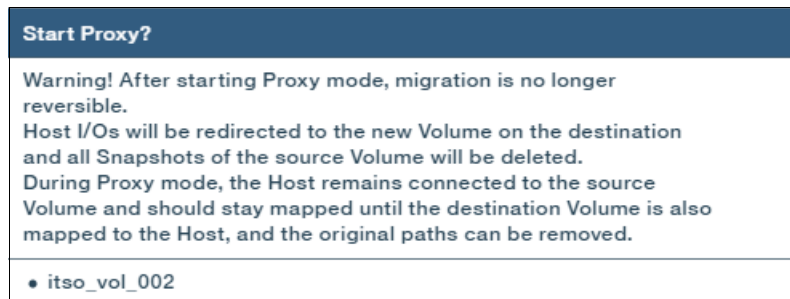

Figure 7-40 Proxy warning message
2. To start proxy, select the source volume (or more than one as needed) and click on the Proxy button. You will get a warning message as shown in Figure 7-40. When in Proxy mode, all the host I/O's will be passed through the source to the destination volume. At this point the host is still connected to the source system.